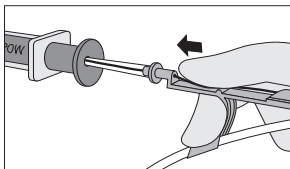

Figure 6
- If using Arrow Advancer, raise thumb and pull Arrow Advancer approximately 4 – 8 cm away from Arrow Raulerson Syringe or introducer needle. Lower thumb onto Arrow Advancer and while maintaining a firm grip on guidewire, push assembly into syringe barrel to further advance guidewire (refer to Figure 6). Continue until guidewire reaches desired depth.